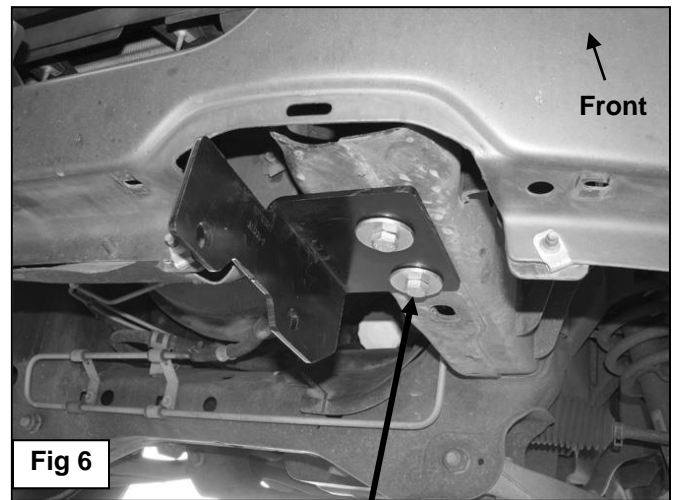

Fig 6
- b. Starting on the driver side of the vehicle, insert (1) ⑨ 12mm Double Nut Plate through the opening in the open front end of the frame, (**Figures 5A & 5B**). Line up the threaded hex nuts on the Nut Plate with the (2) factory holes in the bottom of the frame channel. Hold the Nut Plate in position with (1) ②② 12mm x 40mm Hex Bolt, (1) ②④ 12mm Lock Split Washer and (1) ②⑦ 12mm x 44mm Large Flat Washer partially threaded into the rearmost threaded hole in the Nut Plate, (**Figure 6**).
- c. Select the driver side Frame Mounting Bracket. Slide the slot in the Bracket under the 12mm Hex Bolt and Washers. Line up the remaining hole in the Bracket with the forward hole in the Nut Plate. Insert (1) ②② 12mm x 40mm Hex Bolt, (1) ②④ 12mm Lock Split Washer and (1) ②⑦ 12mm x 44mm Large Flat Washer into the remaining hole in the Bracket, (**Figure 6**). Snug but do not fully tighten hardware at this time.